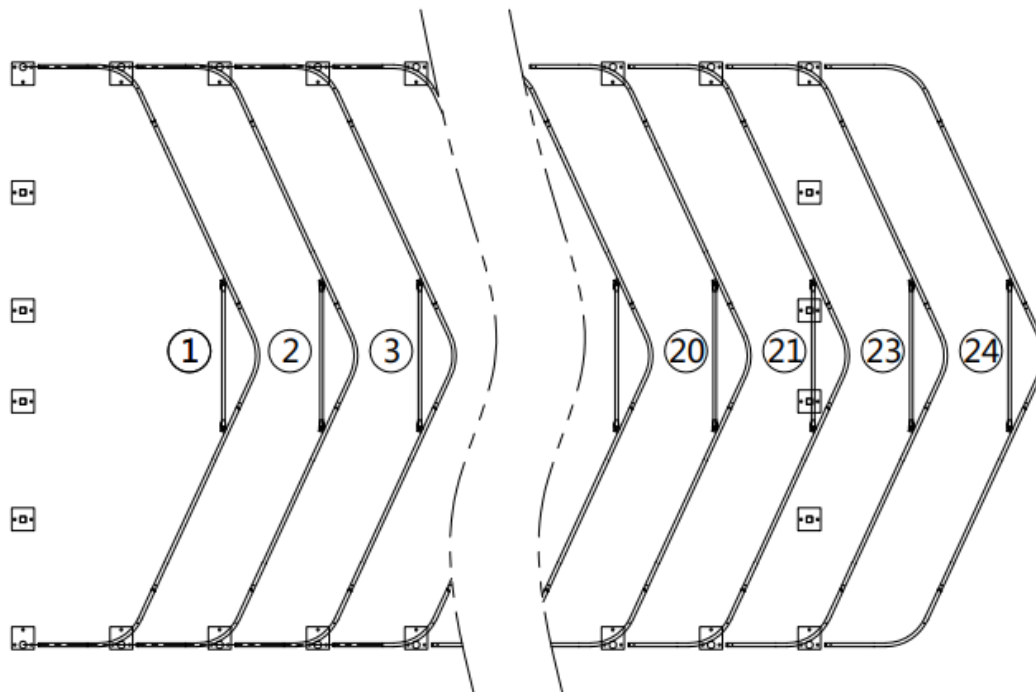

Figure 4
- Lay down all (24) trusses on the ground as figure 4 when the assembly is all completed and before moving to next step.